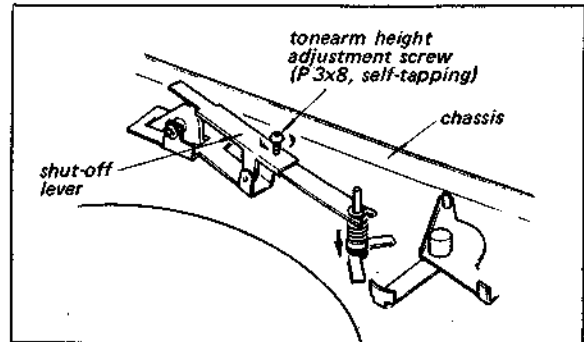

Fig. 3-3. Tonearm height adjustment (3)
3. If necessary, adjust the height of the tonearm lifting platform by loosening the tonearm height adjustment screw as shown in Fig. 3-3.